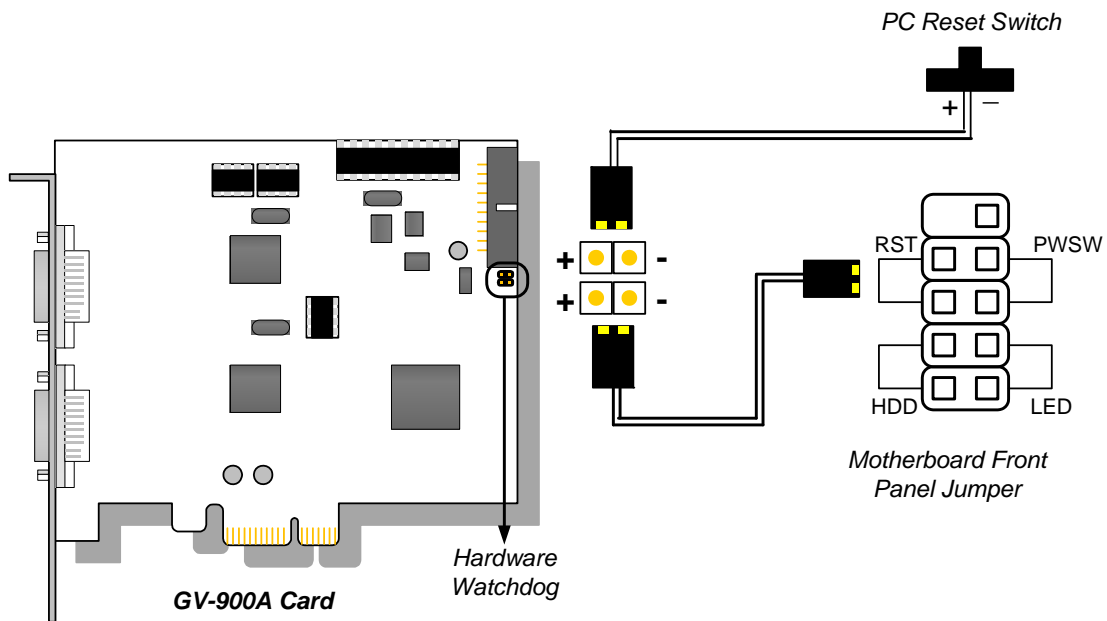

Figure 1-24
- Connect the supplied Hardware Watchdog Jump Wire (Figure 1-24).
- **Hardware Watchdog Connection:** Connect the supplied Hardware Watchdog Jump Wire to the Master Card only (Figure 1-24).